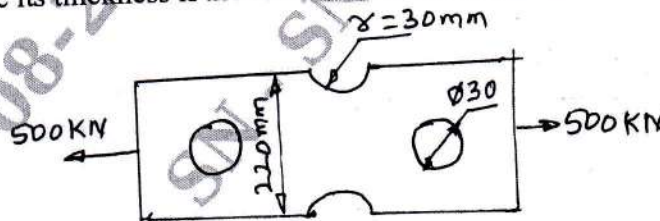

Fig.Q2(c)
c. A bar of rectangular cross section is subjected to an axial pull of 500 kN as shown in Fig.Q2(c). Calculate its thickness if the allowable tensile stress in the bar is 200 MPa.